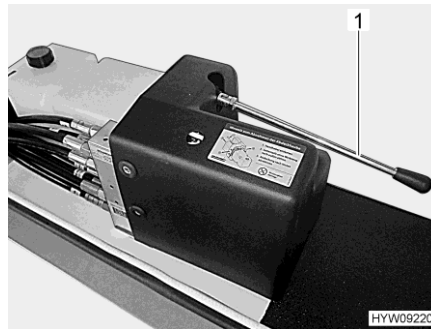

Fig. 44 Lever (emergency release)
- Retract the steady leg with the hand pump. To do this, pump with the lever (Fig. 44,1) until the steady leg is retracted.